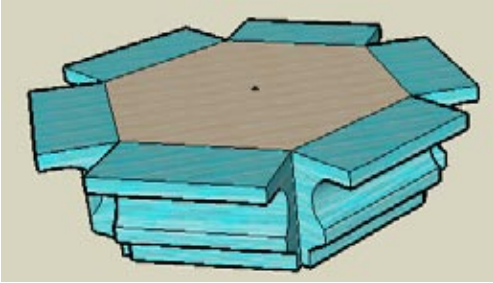

Figure 4-25
4. Rotate-copy the pulled faces along each side of the hexagon (Figure 4-25).